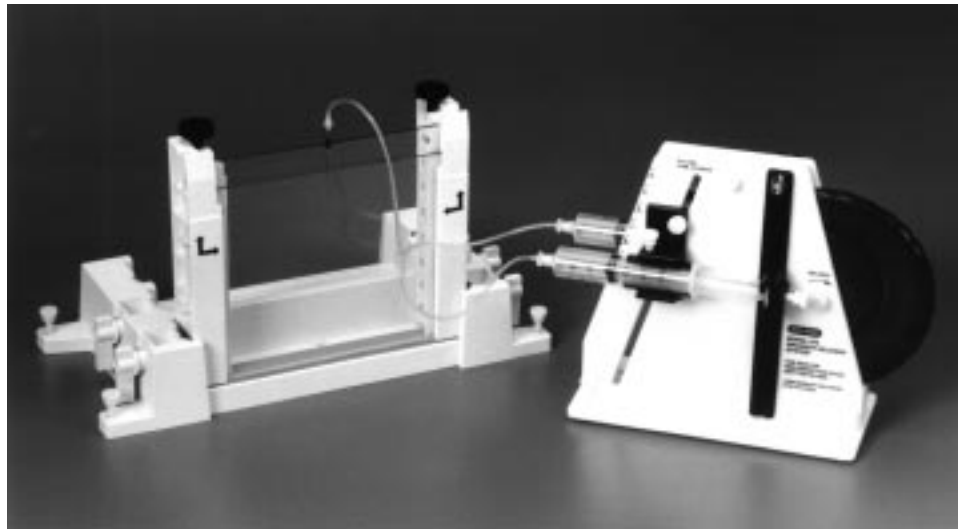

Fig. 6. Casting a parallel gradient gel.
1. Assemble the gel sandwich for a parallel gradient gel as in the DCode system instruction manual. Position the gel assembly upright (see Figure 6).
12. Attach a 19 gauge needle to the coupling. Hold the beveled side of the needle at the top-center of the gel sandwich and cast (Figure 6). For convenience, the needle can be taped in place.